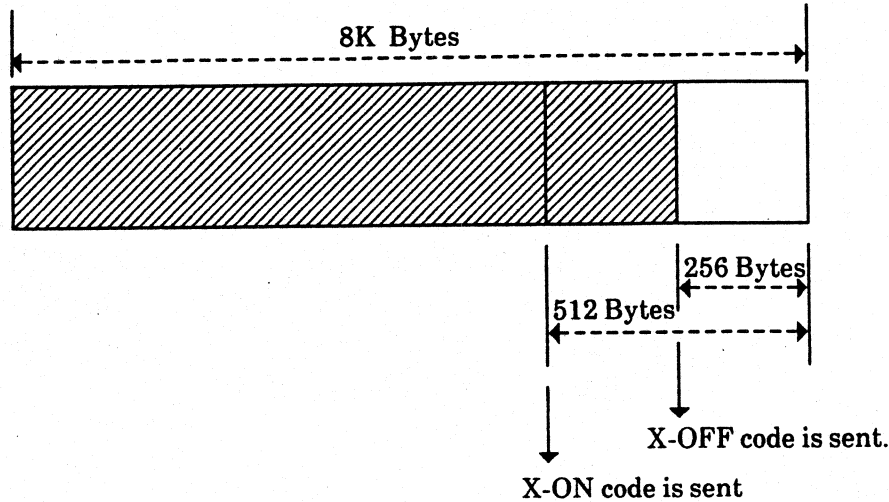

Fig. 1
- The empty area in the buffer becomes equal to or more than 512 bytes. (See Fig.1)
- The empty area in the buffer becomes equal to or less than 256 bytes. (See Fig. 1)